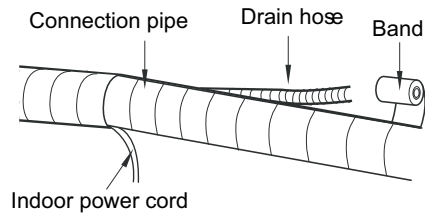

Fig.15
- (2) Reserve a certain length of drain hose and power cord for installation when binding to a certain degree, separate the indoor power and then separate the drain hose.(As show in Fig.15)
- (3) Bind them evenly.
- (4) The liquid pipe and gas pipe should be bound separately at the end.